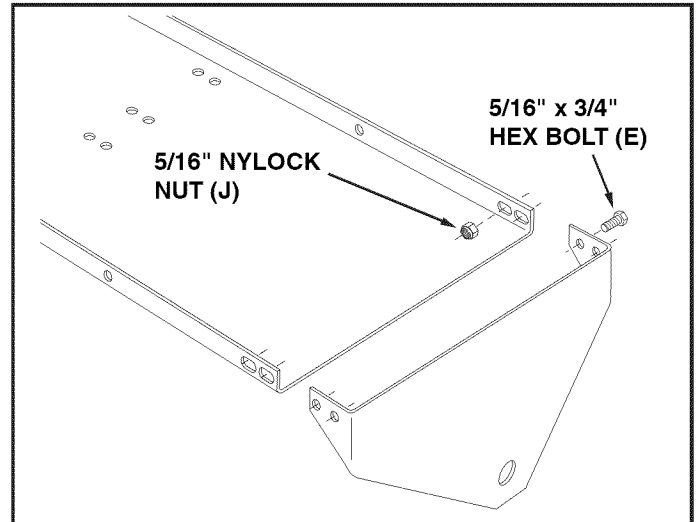

FIGURE 5
- Assemble the end plates to the ends of the tray using four 5/16" x 3/4" hex bolts (E) and four 5/16" nylock nuts (J) for each end plate. **Do not tighten until final step.** See figure 5.